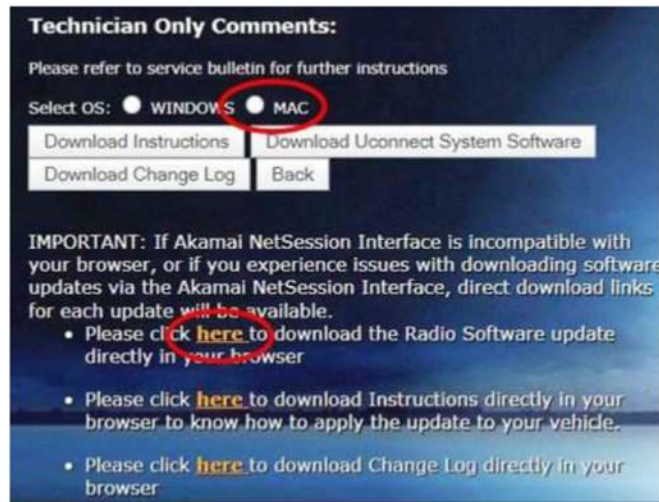

Fig. 3
11. Download the software update file to your local PC's desktop. Make sure to select the "MAC" radial button for all downloads Fig. 3.
18. Press the “**Continue**” on the display screen Fig. 3.